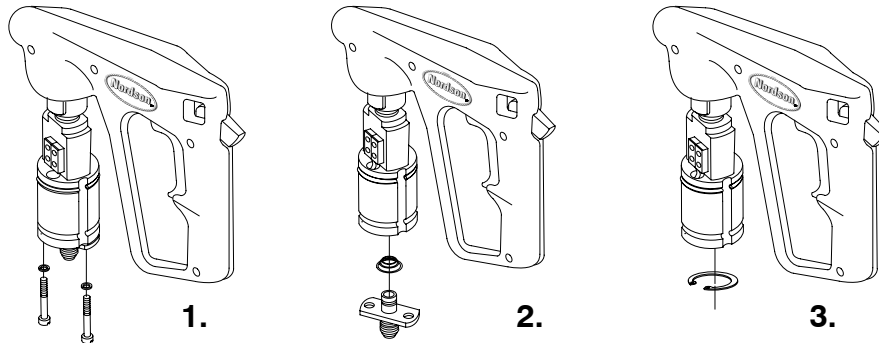

Figure 35 Swivel Connector Removal
1. See Figure 35. Remove the two screws and washers holding the swivel connector to the pivot sleeve.